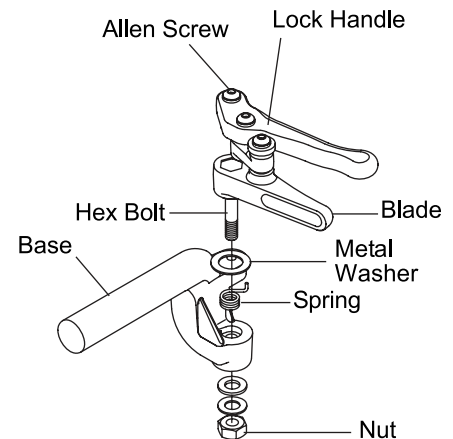

Figure 79
1. Remove the Allen Screw. See Figure 79. Carefully note the order of the washers on either side of the lock handle. See Figure 79.
2. Remove the nut. See Figure 79. Carefully note the order of the washers between the nut and base.
4. Remove and set aside the spring and metal washer shown in Figure 79.
5. Replace the spring and washer shown in Figure 79 with the black plastic washer that shipped with your wheelchair.